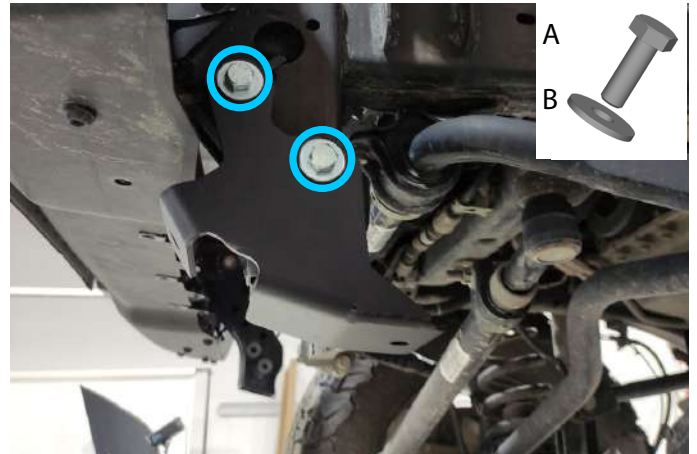

Fig. 5
6. Secure the left mounting bracket (item 4) using M10x30 bolts (item A) and M10 washers (item B), as shown in fig.5.